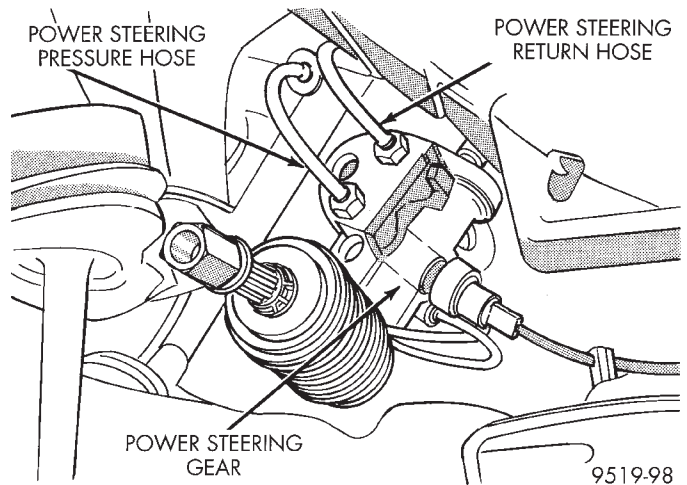

Fig. 43 Power Steering Hose Connections At Steering Gear
(11) Remove the power steering fluid return hose (Fig. 43) from the power steering gear.